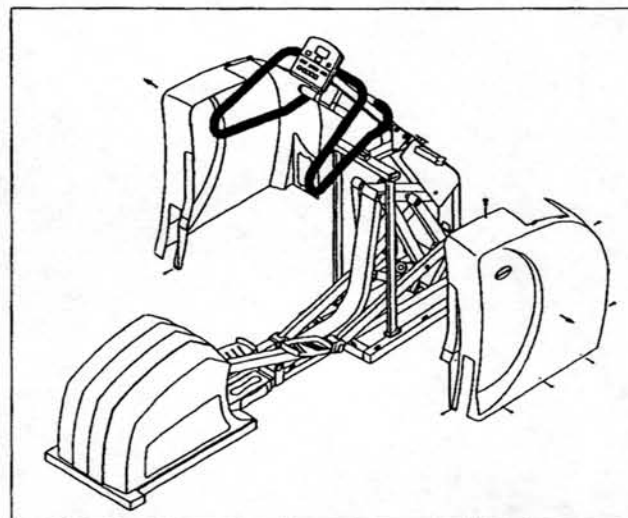

Fig.2-3
3. Remove the screws securing the FRONT COVER (see Fig. 2-3).